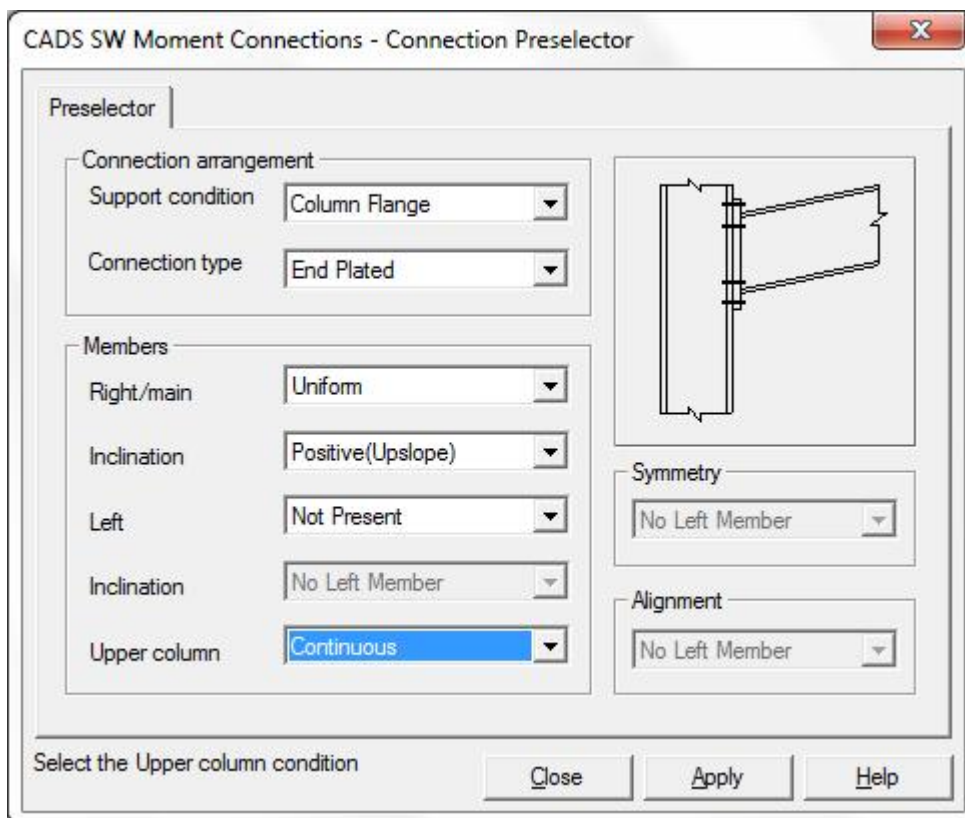

Fig 4.16 Connection preselector with inputs for quasi column flange connection.
1. Open SWMC. Open the *Connection preselector* input page and set up the geometry as shown in fig 4.16